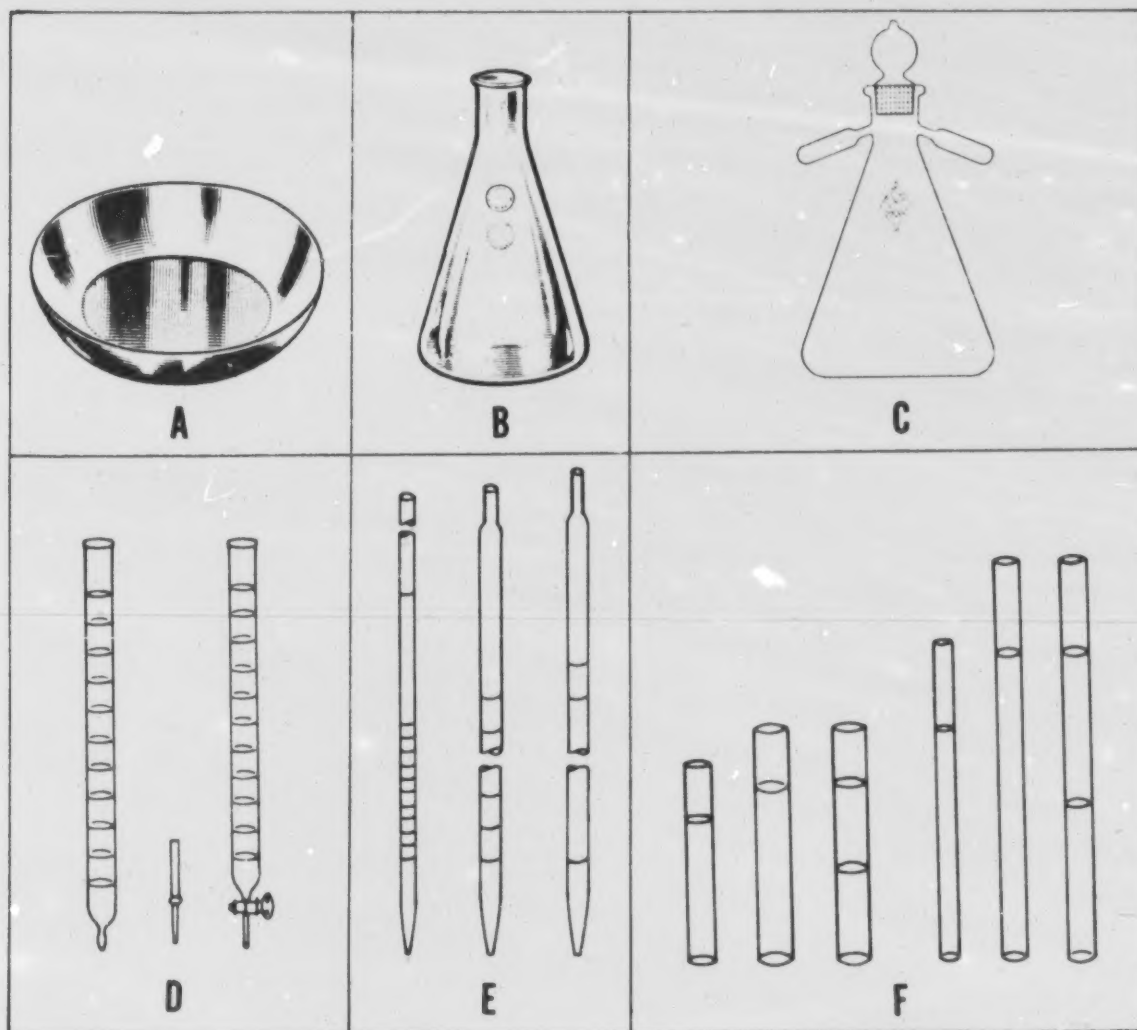

Figure 10-2. —Common laboratory equipment. (A) Evaporating dish. (B) Erlenmeyer flask. (C) Titration flask. (D) Burettes. (E) Pipettes. (F) Nessler tubes.
with color standards containing known amounts of the substance. There are several colorimeter sets available commercially which vary slightly in use and operation. For that reason, make a careful study of the manufacturer's instructions before using such equipment. Other tests are performed by titration or by special instruments. Titration is the process of finding out how much of a substance is contained in a given solution by measuring how much of another substance or reagent has to be added to the given solution in order to produce a given reaction. Common laboratory equipment used in performing treatment control tests is illustrated in figure 10-2.
1. Measure 100 ml of the clear sample (filtered if necessary) into an evaporating dish or Erlenmeyer flask (see fig. 10-2).